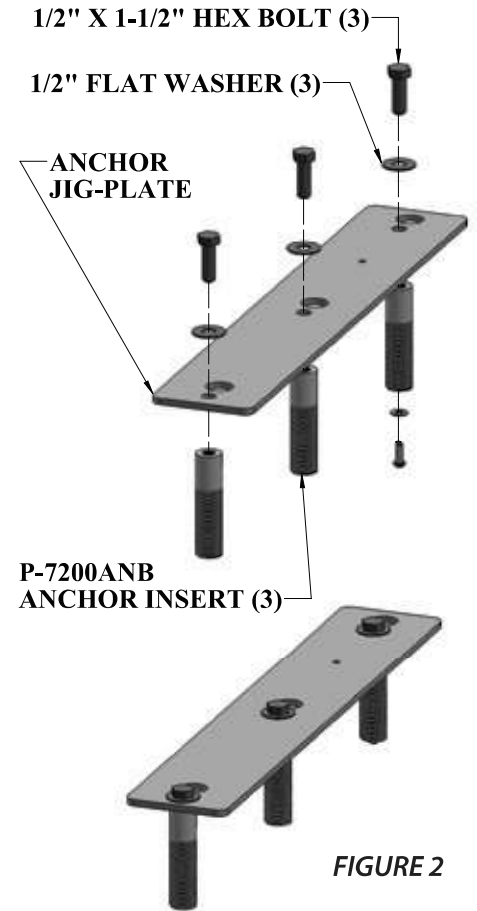

FIGURE 2
4. Thread the 1/2 inch hex bolts and flat washers through the smaller anchor jig plate holes and into the anchor inserts. Be sure to use anti-seize on the threads! Confirm the tops of the inserts are flush with the bottom of the plate. SEE FIGURE 2 ON PAGE 5